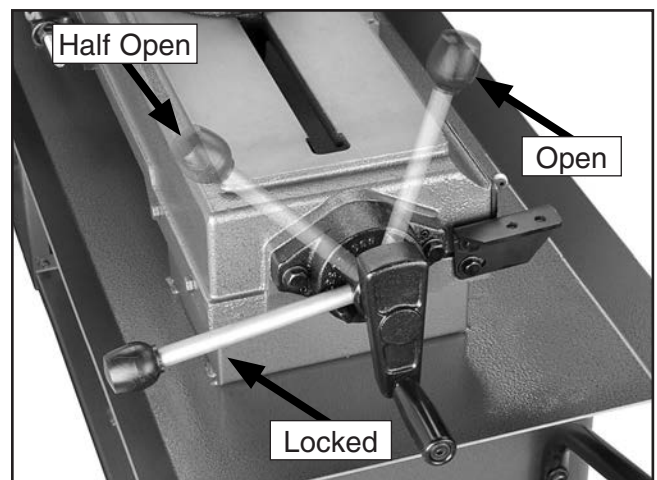

Figure 12. Positive locking handle positions.
2. Place the vise handle in the half open position (45°). See **Figure 12**.
4. Push the positive lock handle down to the lock position (0°). As you do this you will feel the handle tighten against the workpiece (see **Figure 12**).